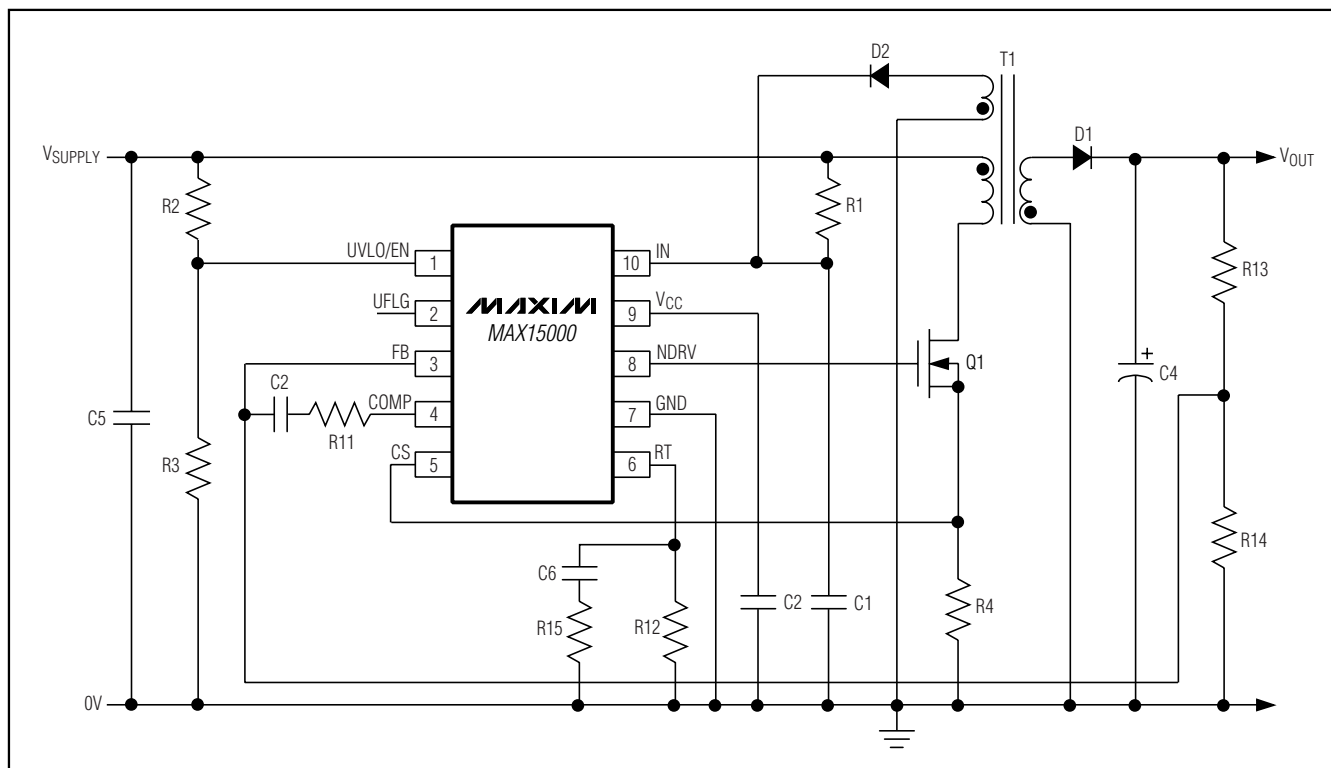
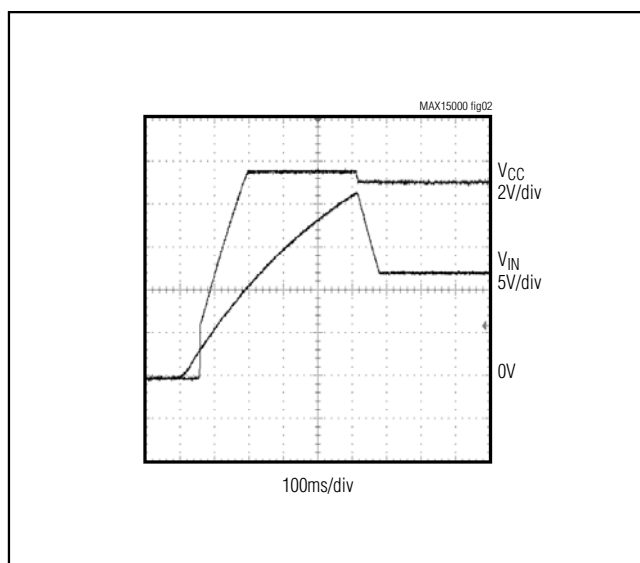

Figure 1. Nonisolated Power Supply with Programmable Input-Supply Start Voltage
Figure 2.  $V_{IN}$  and  $V_{CC}$  During Startup When Using the MAX15000 in Bootstrapped Mode (Figure 1)
**Note 2:** The MAX15000 is intended for use in universal input power supplies. The internal clamp circuit at IN is used to prevent the bootstrap capacitor (C1 in Figure 1) from charging to a voltage beyond the absolute maximum rating of the device when UVLO/EN is low (shutdown mode). Externally limit the maximum current to IN (hence to clamp) to 2mA maximum when UVLO/EN is low. Clamp currents higher than 2mA may result in a clamp voltage higher than 30V, thus exceeding the absolute maximum rating for IN. For the MAX15001, do not exceed the 24V maximum operating voltage of the device.
*Characteristics* table). The input is clamped when the devices are started with a bleed resistor (R1 in Figure 1) from a high input voltage and the UVLO/EN input is low. The clamp can safely sink up to 2mA current.
Power supplies designed with the MAX15000 use a high-value startup resistor R1 that charges a reservoir capacitor C1 (see Figure 1). During this initial period, while the voltage is less than the internal bootstrap UVLO threshold, the device typically consumes only 50μA of quiescent current. This low startup current and the large bootstrap UVLO hysteresis help to minimize the power dissipation across R1 even at the high end of the universal AC input voltage (265VAC).
Use this UVLO/EN input to program the input-supply start voltage. For example, a reasonable start voltage for a 36V to 72V telecom range is usually 34V. Calculate the resistor-divider values, R2 and R3 (see Figure 1) by using the following formulas:
For the MAX15000, the voltage at IN is normally derived from a tertiary winding of the transformer. However, at startup there is no energy being delivered through the transformer, hence, a special bootstrap sequence is required. Figure 2 shows the voltages at IN and  $V_{CC}$  during startup. Initially, both  $V_{IN}$  and  $V_{CC}$  are 0V. After the line voltage is applied, C1 charges through the startup resistor, R1, to an intermediate voltage. At this point, the internal regulator begins charging C2 (see Figure 1). Only 50μA of the current supplied through R1 is used by the MAX15000, the remaining input current charges C1 and C2. The charging of C2 stops when the  $V_{CC}$  voltage reaches approximately 9.5V, while the voltage across C1 continues rising until it reaches the wake-up level of 21.6V. Once  $V_{IN}$  exceeds the bootstrap UVLO threshold, NDRV begins switching the MOSFET and transfers energy to the secondary and tertiary outputs. If the voltage on the tertiary output builds to higher than 9.74V (the bootstrap UVLO lower
The MAX15000A/MAX15001A and MAX15000B/MAX15001B have programmable output switching frequencies from 25kHz to 625kHz and 12.5kHz to 625kHz, respectively. Use the following formulas to determine the appropriate value of the resistor  $R_{12}$  (see Figure 1) needed to generate the desired output switching frequency ( $f_{sw}$ ) at the NDRV output:
where  $R_{12}$  is the resistor connected from  $R_T$  to GND (see Figure 1).
Connect an RC network in parallel with  $R_{12}$  as shown in Figure 1. The RC network should consist of a 100nF capacitor  $C_6$  (for stability) in series with resistor  $R_{15}$  which serves to further minimize jitter. Use the following formula to determine the value of  $R_{15}$ :
The MAX15000/MAX15001 include an internal error amplifier to regulate the output voltage in the case of a nonisolated power supply (see Figure 1). For the circuit in Figure 1, calculate the output voltage using the following equation:
The current-sense resistor (R4 in Figure 1), connected between the source of the MOSFET and ground, sets the current limit. The current-limit comparator has a voltage trip level ( $V_{CS}$ ) of 1V. Use the following equation to calculate the value of R4:
The bypass capacitor at IN, C1, supplies current immediately after the MAX15000 wakes up (see Figure 1). The size of C1 and the connection configuration of the tertiary winding determine the number of cycles available for startup. Large values of C1 increase the startup time but also supply gate charge for more cycles during initial startup. If the value of C1 is too small,  $V_{IN}$  drops below 9.74V because NDRV does not have enough time to switch and build up sufficient voltage across the tertiary output which powers the device. The device goes back into UVLO and does not start. Use a low-leakage capacitor for C1 and C2.